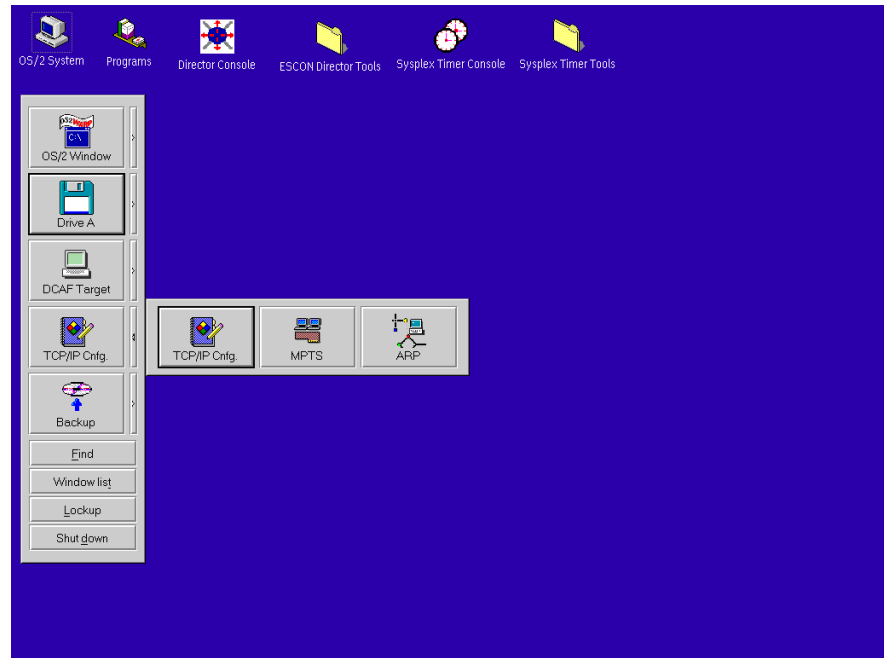

Figure 194. OS/2 Desktop (TCP/IP Cnfg. Drawer Open)
12. Click the arrow on the *TCP/IP Cnfg.* drawer to open the drawer (Figure 194).